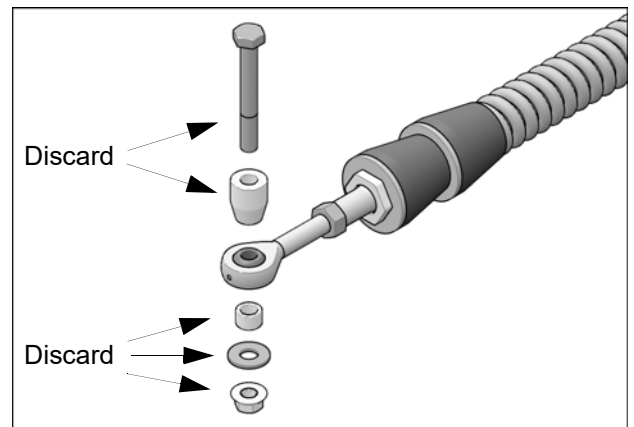

Fig. 3
- Remove and discard bolts, washers, bushings, and nuts from rear stabilizing rod ends. See Fig. 3